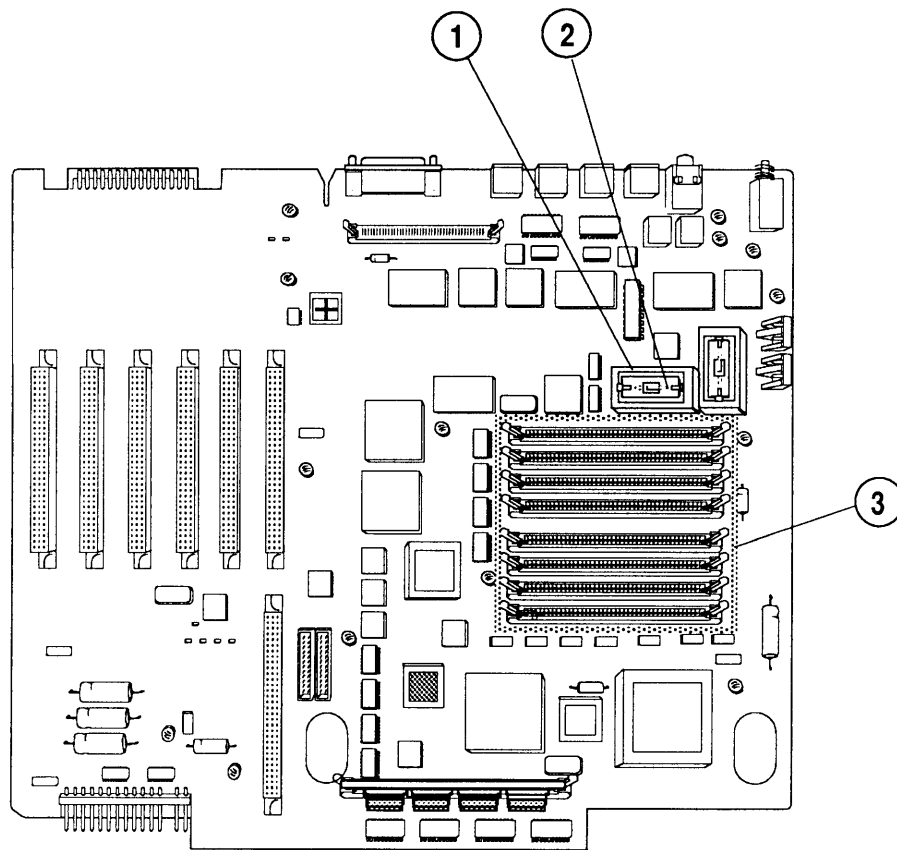

FIGURE 5
- IPL.11 Macintosh II/IIx/IIfx – Drives (Figure 5)
□ **MACINTOSH IIx—LOGIC BOARD WITH PARITY (Figure 5)**
□ MACINTOSH II/IIx/IIfx – DRIVES (Figure 5)